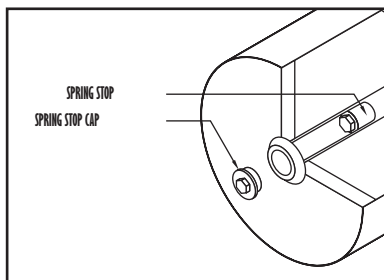

figure 2
- 1.2 Spring Canister (See figure 2)